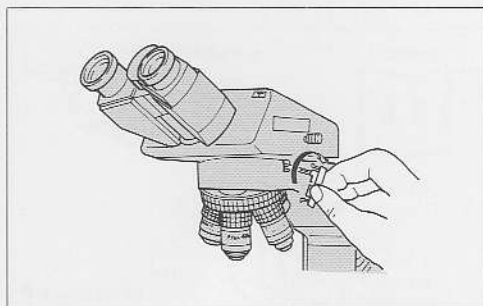

Fig. 2-9
- Loosen the eyepiece tube clamp screw sufficiently using the hexagon wrench. (See ⑫.)
- Insert the circular dovetail of the trinocular eyepiece tube into the circular dovetail of the eyepiece tube mount. Fasten it with the eyepiece tube clamp screw (Fig. 2-9).